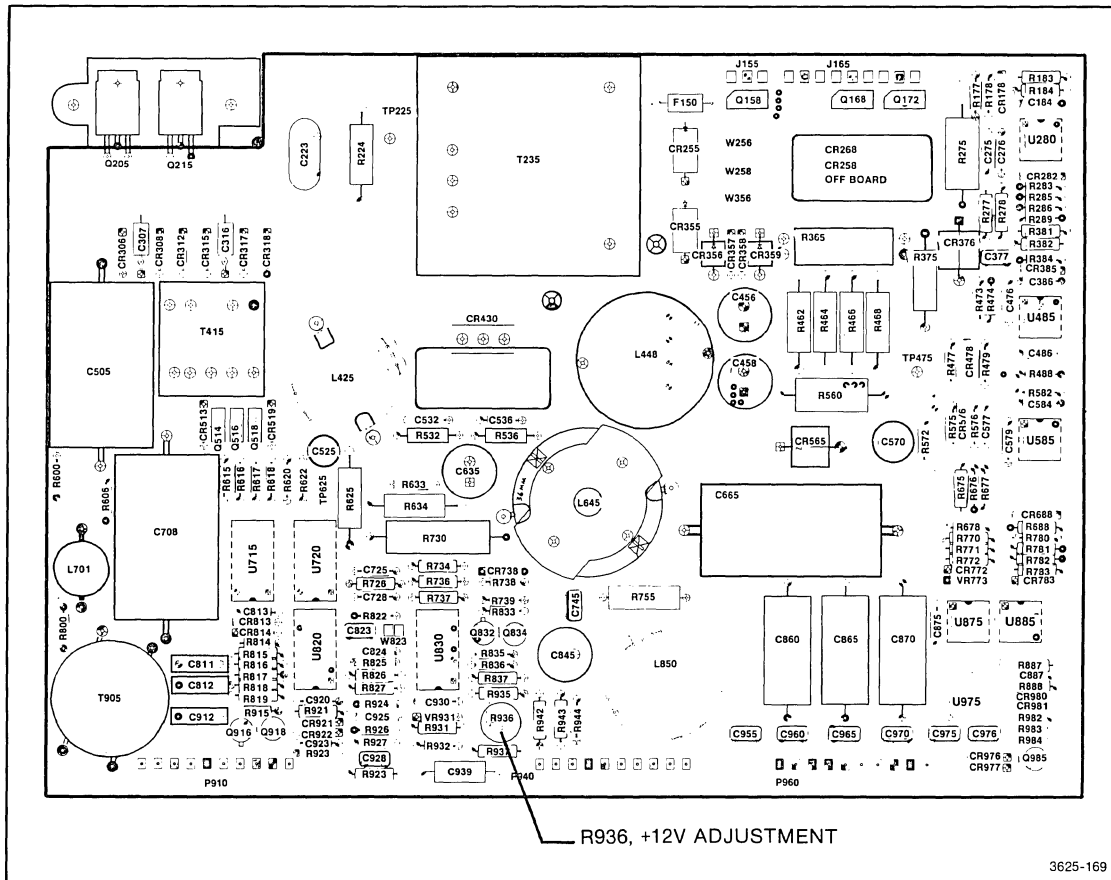

Figure 5-42. Main Power Supply adjustment locations.
18. Adjust R936 on the Main Power Supply (see Figure 5-42) with the small slotted screwdriver until the DMM reads +12 V within a $\pm 1\%$ test boundary.